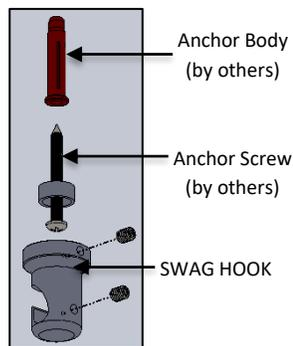
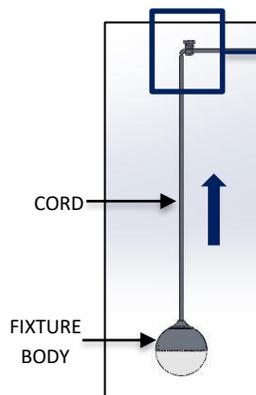

FIG. 10 – SWAG HOOK INSTALLATION
FIG. 11 – FIXTURE INSTALLATION
3. Attach the provided SWAG HOOK to the ceiling with ANCHORS (by others) as shown below in FIG. 10 and hang the FIXTURE CORD into the SWAG HOOK and adjust the desired height as shown in FIG. 11 and 12. See the final page of these instructions for several examples of how the hooks can be laid out. Carefully unroll GLOWBALL BODY CORDS. Avoid kinking the FIXTURE CORD, kinking the CORD will damage it.